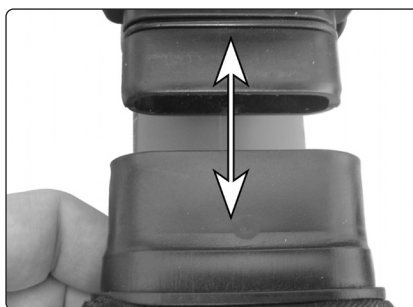

fig.2
- 4.8. The dust collection bag will need to be emptied on a regular basis. Disconnect from the power supply and hold the sander in a vertical position, gently pull off the dust bag (fig.2) and empty in to a suitable container. Refit the dust bag onto the sander, ensuring that it is pushed home fully to create a good seal.